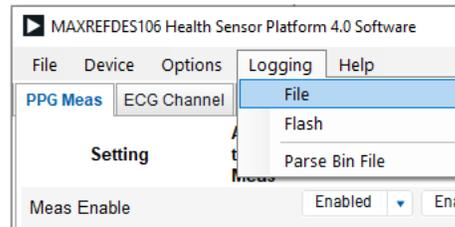

Figure 68. Data Logging to a File
1. To log data to the file, click the **Logging** tab of the GUI and select file logging (Figure 68)